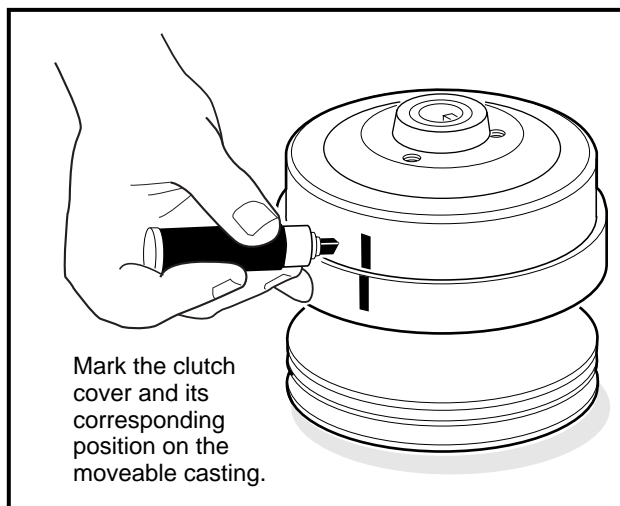

Figure 17-6 Mark Clutch Cover
- THE DRIVE CLUTCH IS BALANCED AS AN ASSEMBLY. BEFORE DISASSEMBLY, MAKE MATCH MARKS ON THE CLUTCH COVER AND ON THE MOVEABLE FACE ASSEMBLY SO THEY CAN BE REASSEMBLED IN THE SAME POSITIONS (**FIGURE 17-6, PAGE 17-7**).
1. Make match marks on the clutch cover and on the moveable face casting (**Figure 17-6, Page 17-7**).